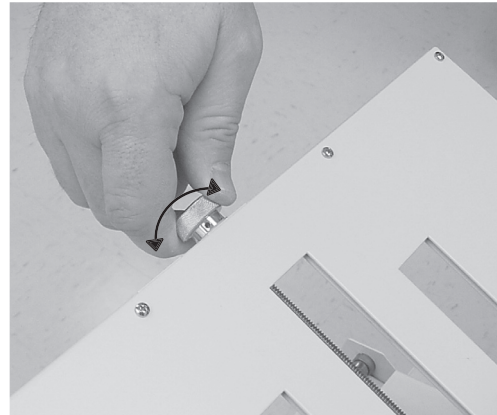
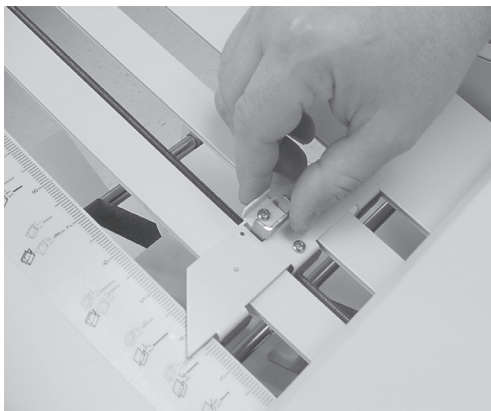

Fig. 4
Fig. 3
2. To set the fold plate stop position, squeeze the stop plate lever and move the stop plate to the desired location on the upper and lower fold plates (Fig 3). Align the pointed part of the stop plate with the desired marks on the decal and release the lever. Fine adjustments can be made with the adjustment knob at the end of the plate (Fig 4).